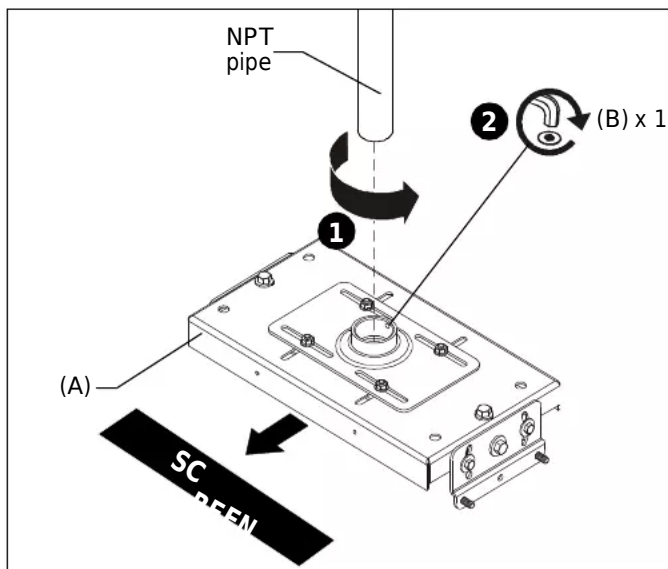

Figure 1
1. Thread the VCM mount (A) onto the existing 1-1/2" NPT pipe until tight. (See Figure 1)
NOTE: Ensure that long edge of VCM mount is located parallel to the screen. (See Figure 1)
2. Tighten the 5/16-18 x 3/8" set screw (B) into the VCM mount threaded collar to prevent movement of the VCM. (See Figure 1)